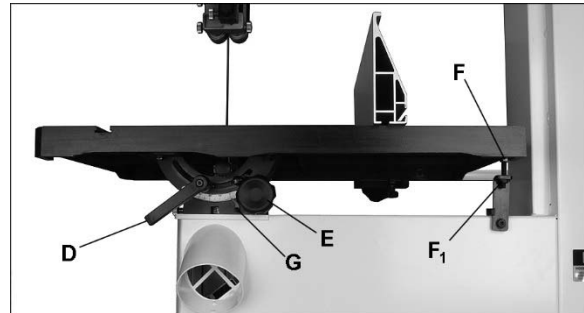

Figure 7-4
Refer to Figure 7-4.
2. Loosen lock handle (D).
**Note:** Table stop bolt (F, Figure 7-4) must be pivoted out of the way to tilt table to the left.
1. Loosen lock handle (D, Figure 7-4) and use knob (E) to tilt table until it rests against table stop bolt (F). Retighten lock handle.